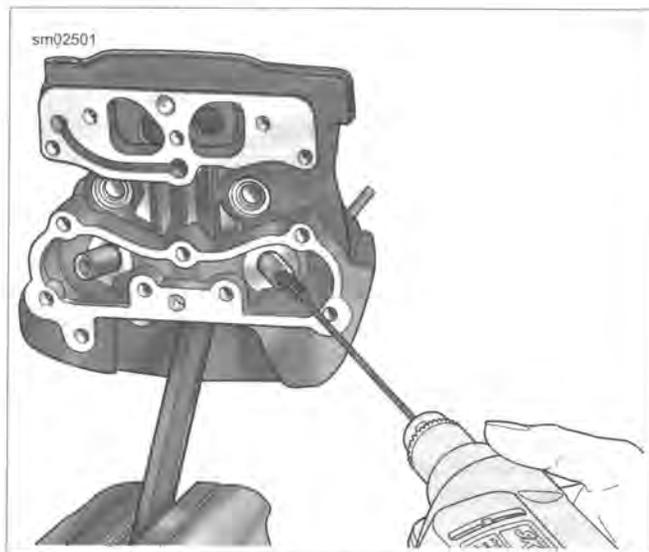

Figure 3-46. Honing Valve Guide Bore
8. See Figure 3-46. Hone bore to finished size.